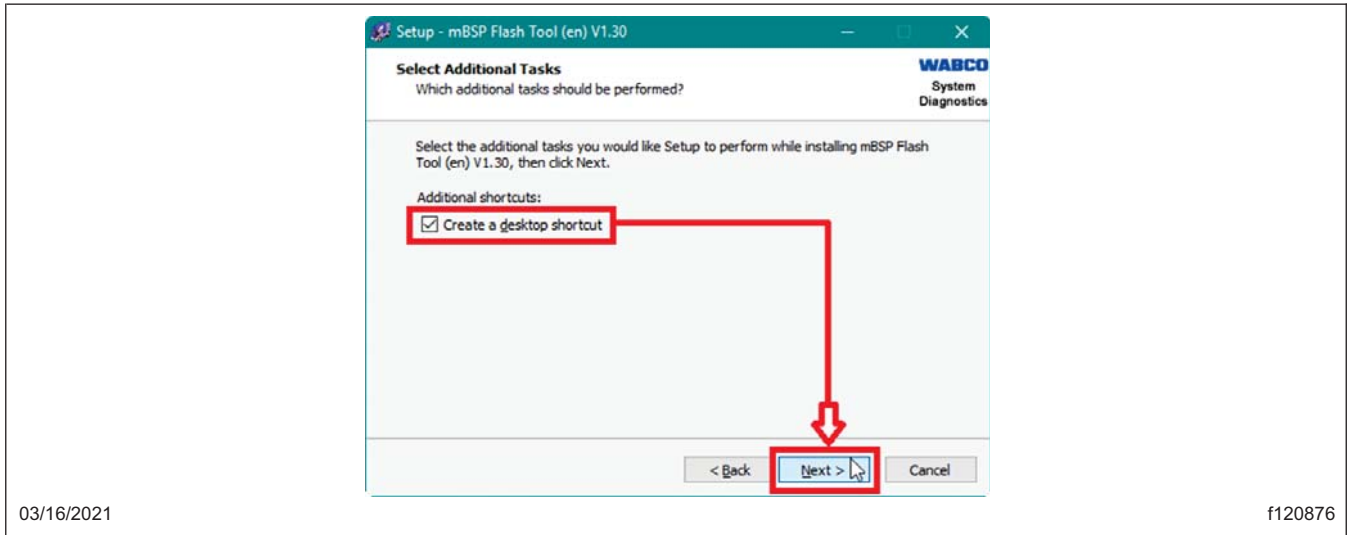

Fig. 16, Creating a Desktop Shortcut
7.10 At the 'Select Additional Tasks' window which will appear next, select 'Create a desktop shortcut' and then select 'Next.' See Fig. 16.